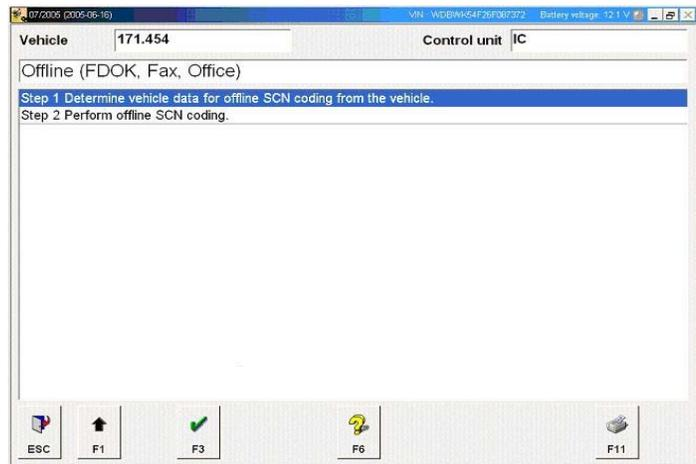

Figure 2
3. Select 'Determine vehicle data for SCN Coding,' Press 'F3' (Figure 2)